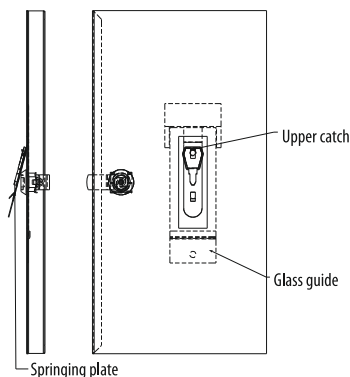

Fig. 1
- Bend spring plate in the direction - outside the cabinet, giving it elastic properties - Fig. 1